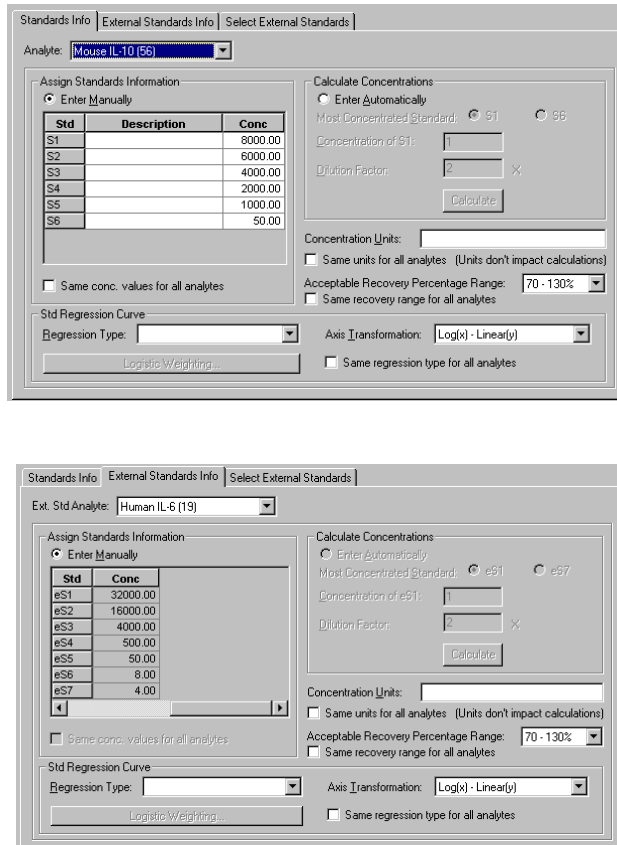

Figure 60. *Standards Info* window (top) and *External Standards Info* window (bottom) (external standards concentrations cannot be changed).
- The fields under these tabs are the same, except that you cannot alter the concentrations under the *External Standards Info* tab (they will appear grayed out), as shown in Figure 60.